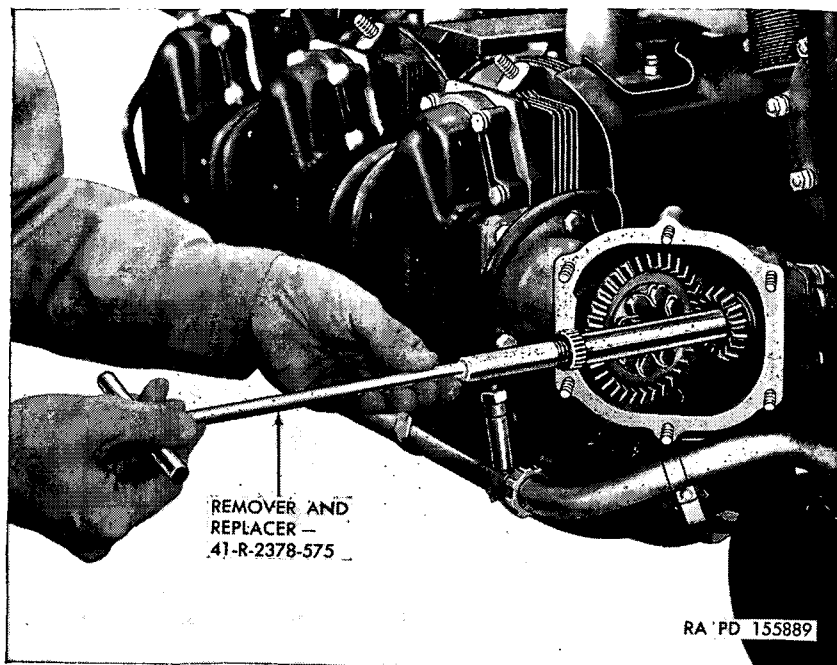

Figure 19. Removing camshaft drive shaft.
remover and replacer 41-R-2378-575 (fig. 19). With the same remover, remove the camshaft drive shaft (M, fig. 53) from the camshaft drive bevel gear (HH).